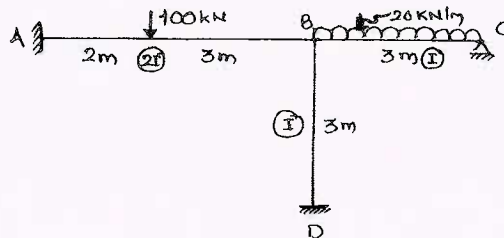

Fig.Q4
- 4 Analyse the frame by moment distribution method. Draw BMD, SFD and elastic curve. Refer Fig.Q4.